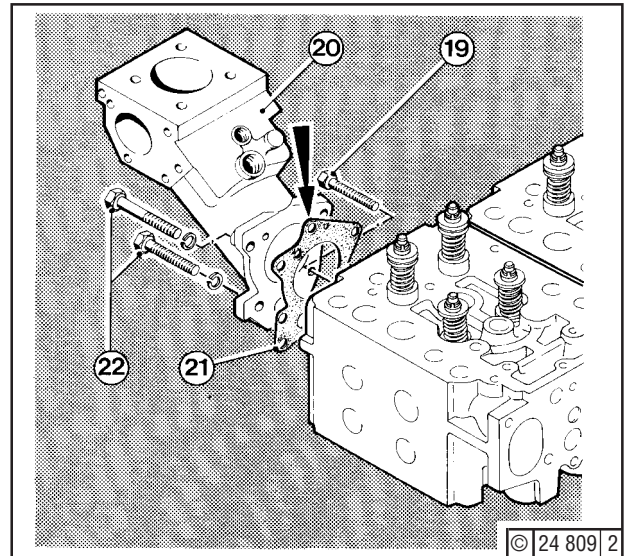

Fig. 5
Fit puller screw (19) in exhaust manifold (20) - Fig. 5 - and press off manifold from head until gasket (21) can be fitted in the gap.